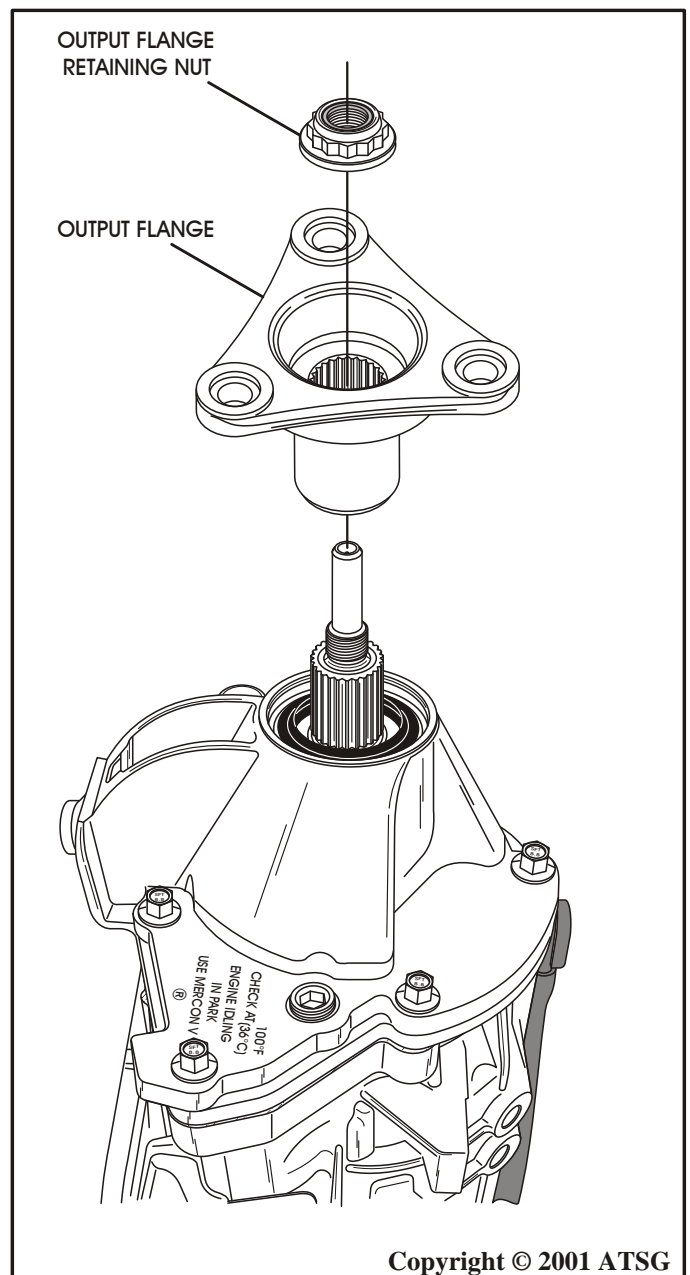

Figure 180
86. Install the output flange onto the output shaft, as shown in Figure 180.